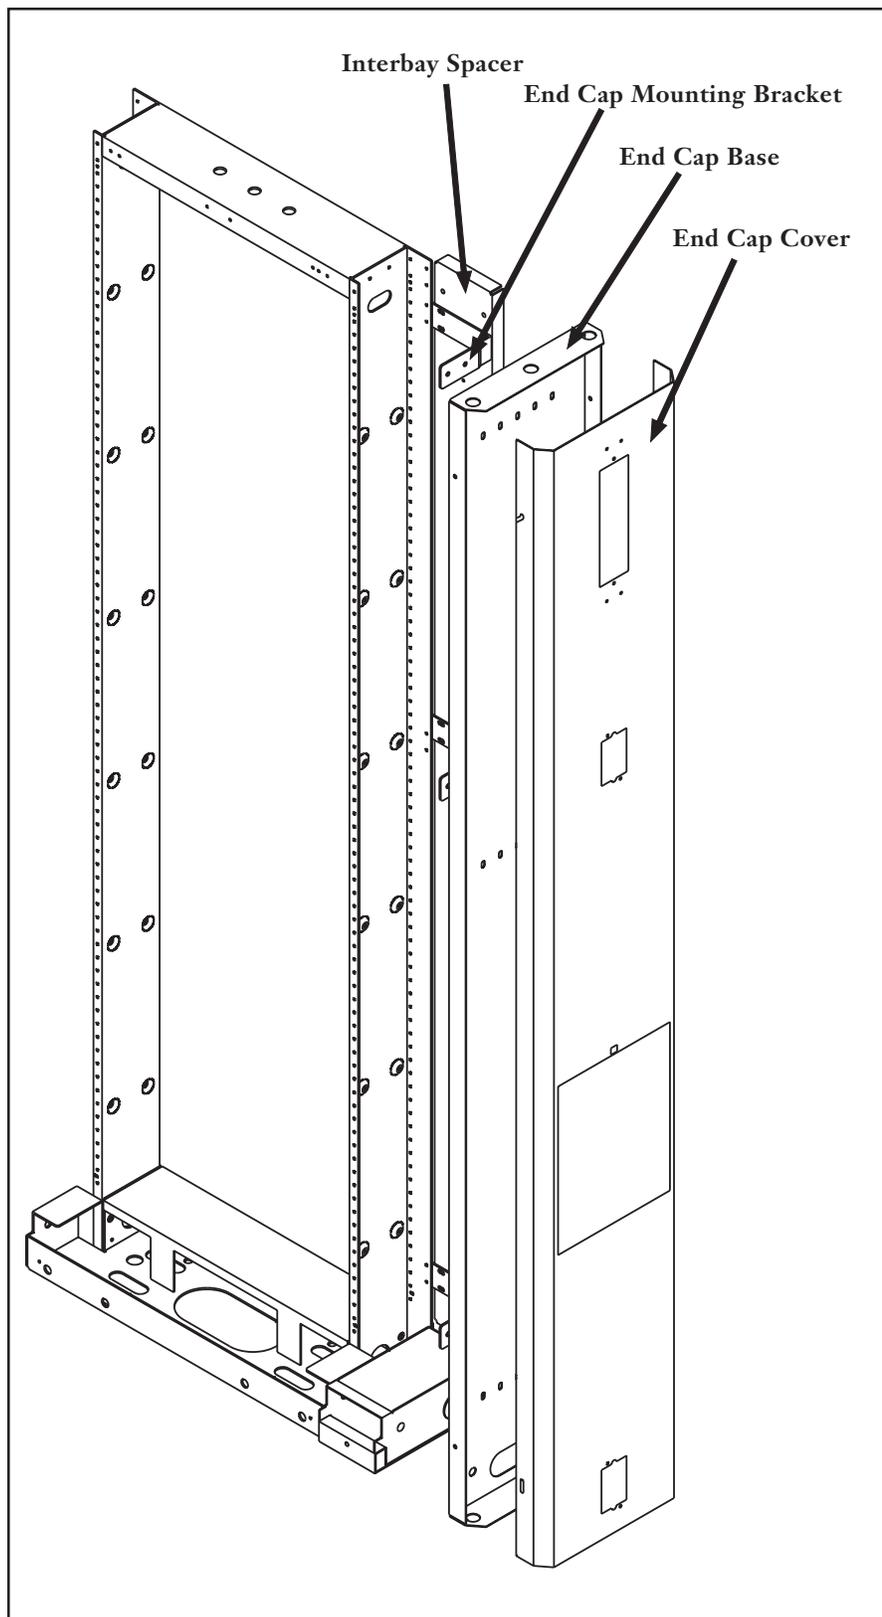

Figure 9
6.1 Endcaps are installed on the end of frame lineups to finish out the lineup and protect the exposed jumpers. The endcaps mount to the frame through the interbay spacer (Figure 9).